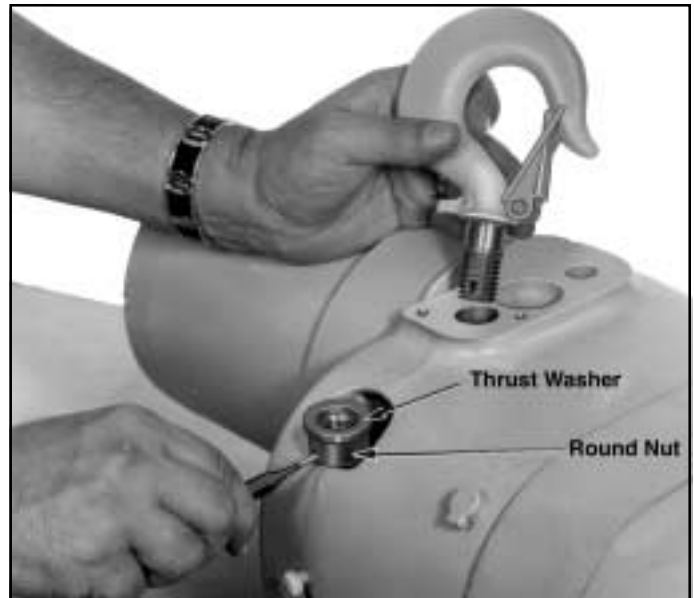

Figure 7-18. Removing Upper Hook and Hook Nut from Hoist Frame (1/4 thru 1 Ton Models)
(1) On 1/4 thru 1 ton models, drive pin from hook nut using drift punch and unscrew upper hook. Nut is reached thru access hole in side of hoist frame. See figure 7-18.
(4) To remove connecting rod (fig. 7-2) on 3 ton hoist, drive pin from rod nut using drift punch and unscrew connecting rod. Nut is reached thru access hole in side of hoist frame. (See fig. 7-18).